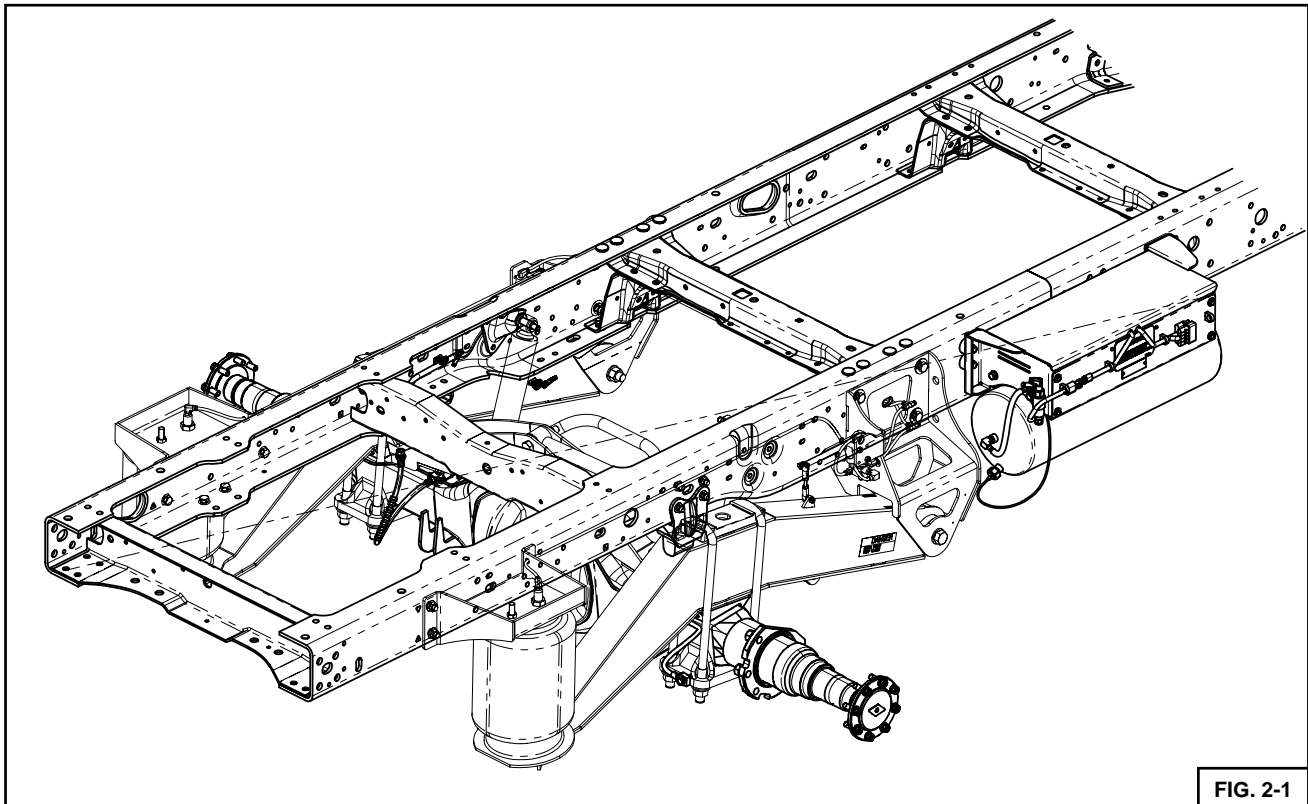

FIG. 2-1
1. Mount the Air Control Box to the side of the frame in the specified location. See Figure 2-1. Use (4) 5/16 X 1 3/4 UNC FLANGE BOLTS , (4) 5/16 UNC TOPLOCK FLANGE NUTS, and (4) 5/16 WASHERS (ALL SUPPLIED) to fasten the Air Control Box to the frame, placing the Rubber Isolators between the box and frame. (Torque to 15-20 FT-LBS.) Some drilling may be required for this procedure. Do not tighten the fasteners so tight that back of the Air Control Box contacts any bolts protruding from the frame. See Figure 2-1 for details.